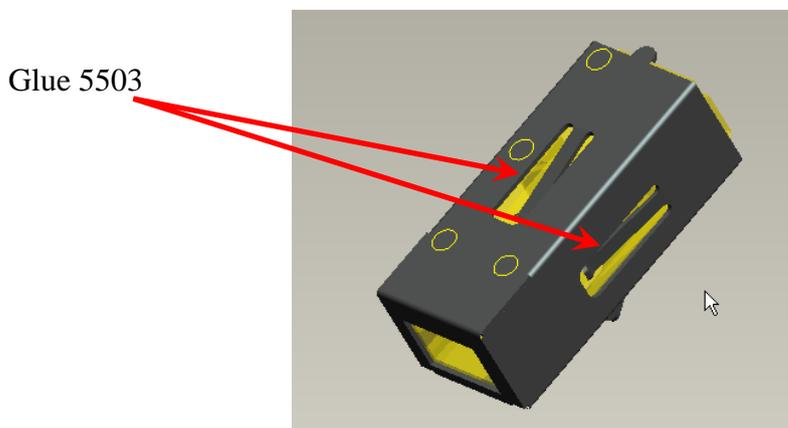

Fig. 4-3
4.3 Glue “LP” and “BKT_LP” with ”UV5503 Glue” at two opening of “BKT_LP” show in Fig. 4-3.
- i. The UV-glue must fill up the whole opening area (shown in Fig. 4-3) to contact well with LP surfaces and “BKT_LP”.